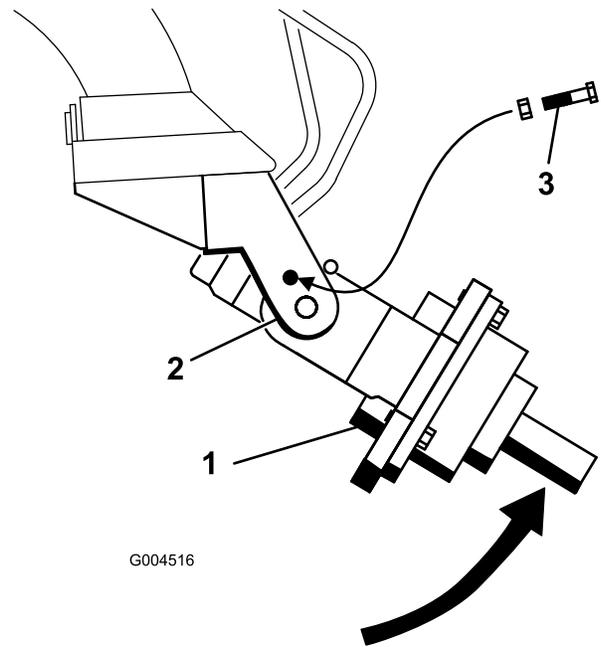

Figure 5
4. Manually rotate the auger drive head up, until you can slide a bolt (1/2 x 2-1/2 inches) into the hole in the cradle arm, securing the drive head. Lightly secure the bolt with a flange nut (1/2 inch) (Figure 5).